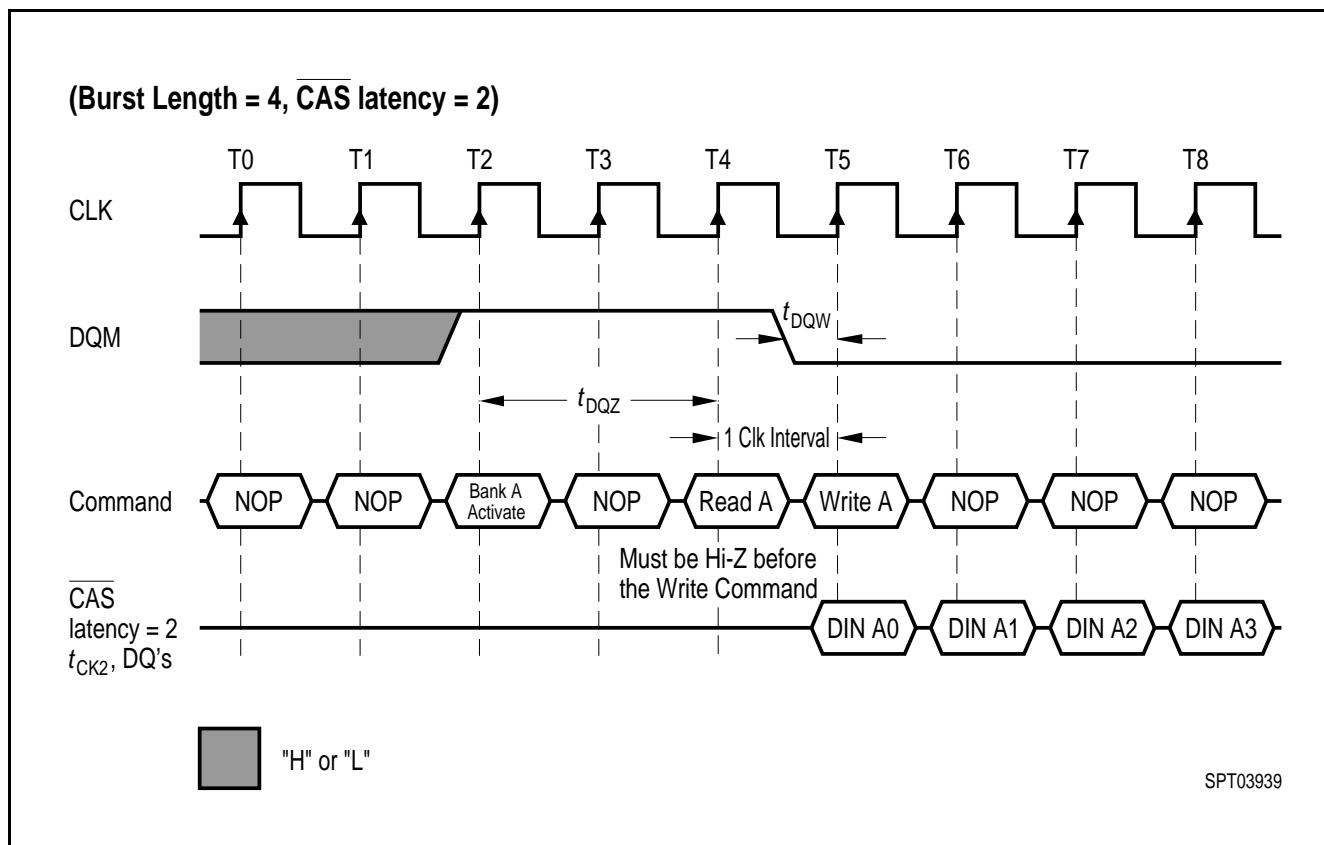

Figure 9 Minimum Read to Write Interval
- Figure 9 Minimum Read to Write Interval